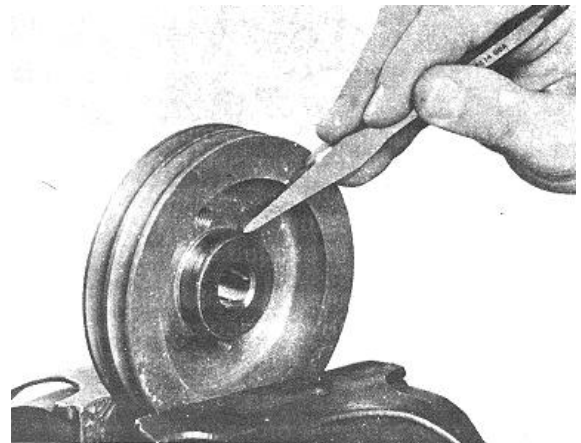

Fig. 8-41 (N10882). Cut The Wear Sleeve.
- a. Use a chisel as shown in Fig. 8-41 to cut a groove into the wear sleeve.